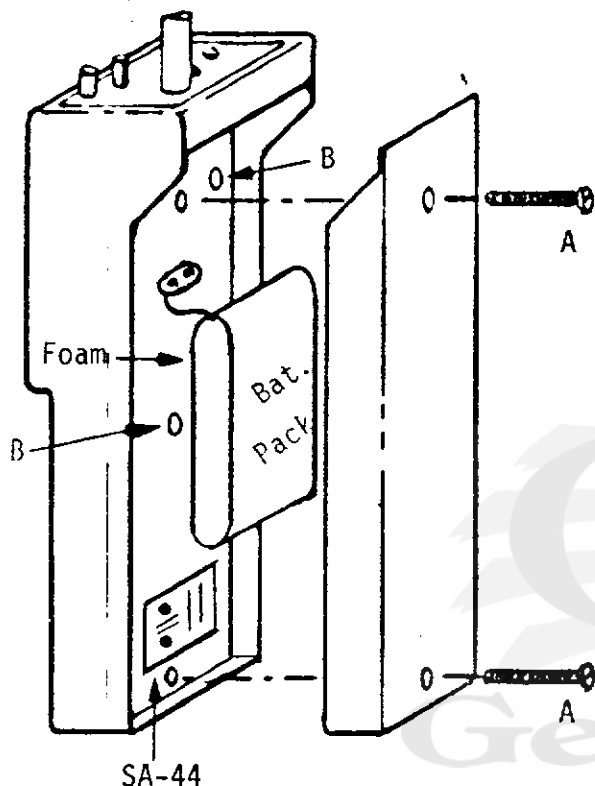

Figure 4-2. Disassembly
The transceiver covers are easily removed; refer to Figure 4-2 and proceed as follows: (DO NOT BUMP OR MOVE XMIT CRYSTAL TRIMMERS AT BOTTOM, RH-SIDE OF PC BOARD).
2. Remove two #4-40 x 1" pan-head machine screws which secure back cover to transceiver (Fig. 4-2, item "B").
4. Remove two #4-40 pan-head machine screws (Figure 4-2, item "B") which secure PC board to FRONT cover.
2. Rotate speaker so that its two solder terminals face in the general direction of the Charging Jack. Be sure speaker terminals DO NOT short against resistor leads or coils; then check routing of speaker wires to insure they will not be pinched when mounting screws "B" or "A" (Figure 4-2) are installed.
4. Turn transceiver over on its front side and be sure PC board is fully seated in FRONT cover. Now install two 4-40 machine screws (Figure 4-2, item "B").